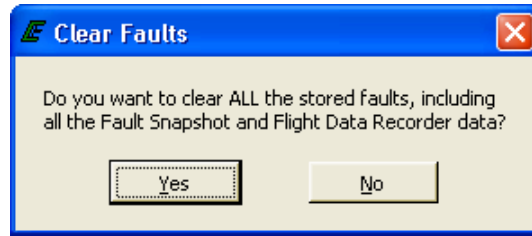

Figure 3-92. Clear Faults Prompt
Fault information may be manually erased using the “Clear” button functions. Once a “Clear” function has been selected, the dialog prompt shown in Figure 3-92. will be displayed. Choosing YES deletes all fault information from the ECM.
* Snapshot and flight data recorder data for historic faults is erased after the prompt shown in Figure 3-92. is satisfied